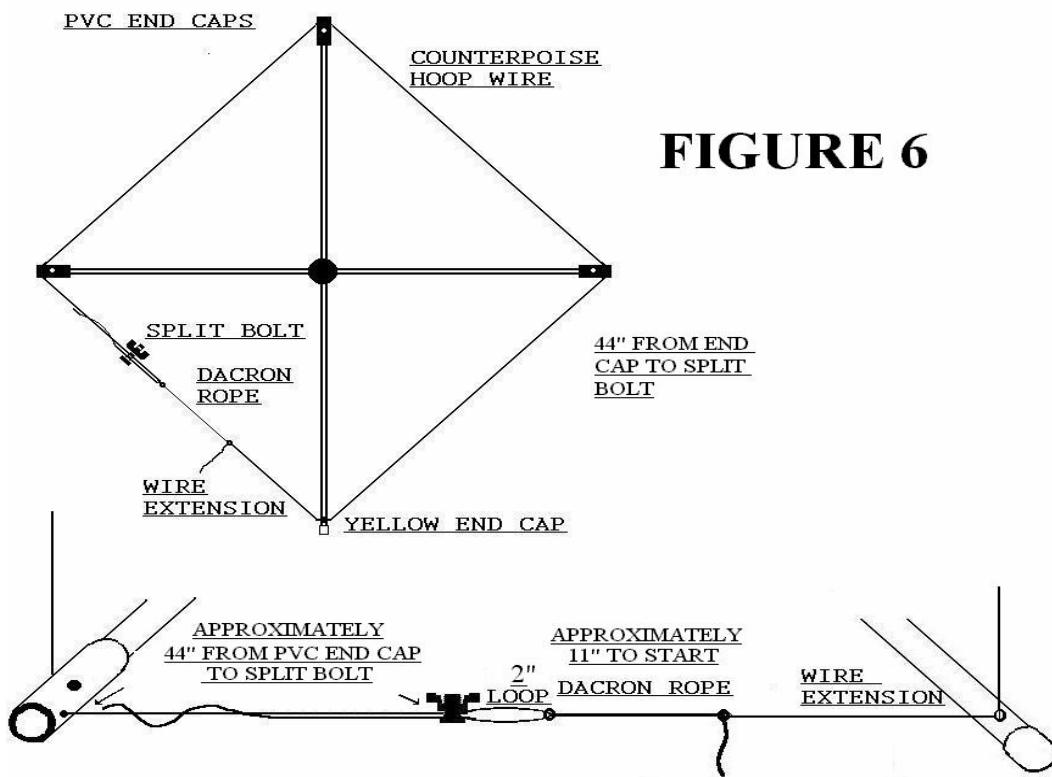

FIGURE 6
5.2 **COUNTERPOISE ASSEMBLY** see figure 6
F) Take the ring terminal from the Counterpoise Hoop wire and one terminal from the wire extension. Place both terminals over the drill hole at the end of the 80" counterpoise rod that has the yellow end cap and is attached to the aluminum tube on the Counterpoise bracket. see figure 6. Insert a screw attaching these terminals to the Counterpoise rod.